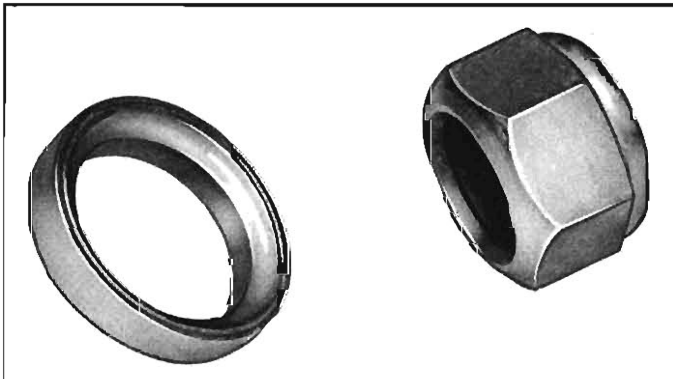

Fig. 9-57—Special Washer and Nut
16. Remove assembly from press and position the special impeller washer (fig. 9-57) with dished side upward and install (LEFT HAND THREADS) the self-locking nut on the turbine